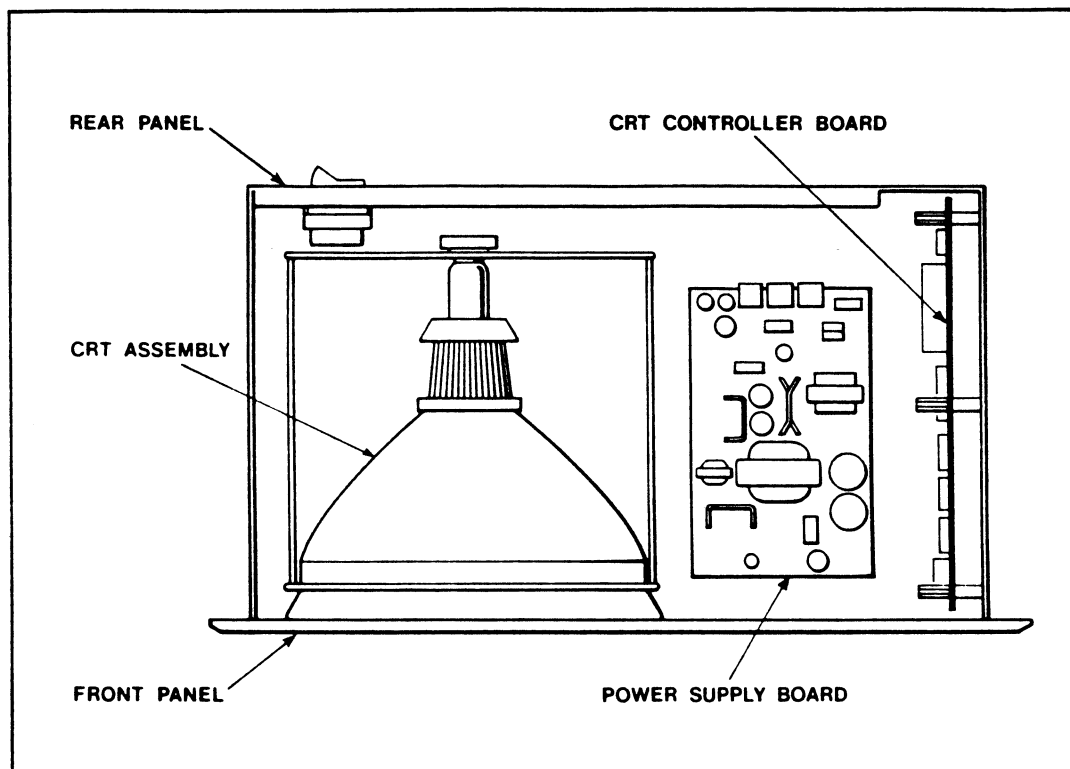

Figure 2-2 Overhead View of Terminal Components.
3. Locate the CRT controller board (see Figure 2-2).